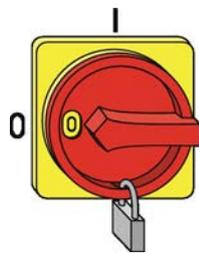

Fig. 10: Securing the mains isolator
2. ▶ Secure the mains isolator with a padlock (Fig. 10).